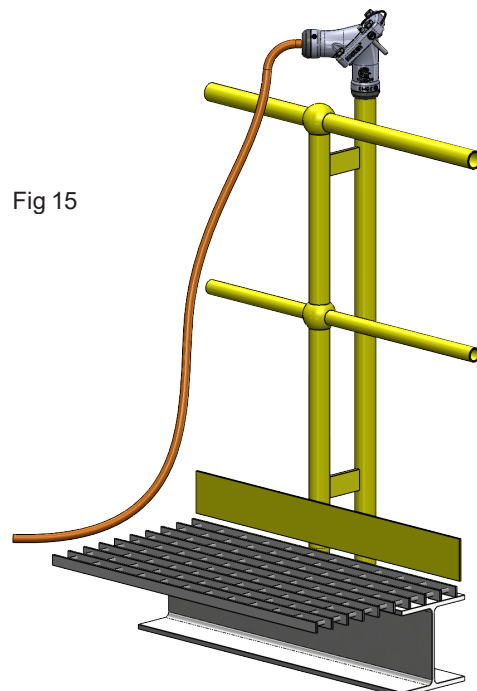

Fig 15
- Swivel the Maxis™ joint to lowered position. (Fig 15)